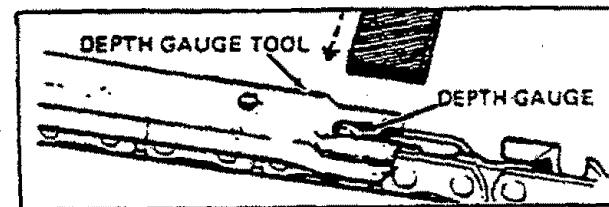

Figure 32
- a.) Place depth gauge tool (Catalog No. 71-36557) over each cutter depth gauge. Figure 32.
- c.) Maintain rounded front corner of depth gauge with a flat file. Figure 32 & 33.